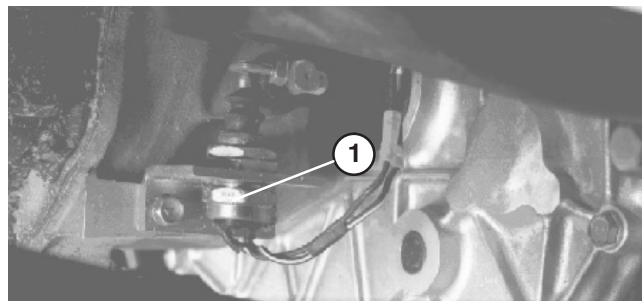

Figure 7
7. Recheck the clutch safety switch adjustment (Fig. 7). The engine must not crank unless clutch pedal is $1.25'' \pm .12''$ from floor. If an adjustment is required, loosen switch jam nuts and adjust up or down.